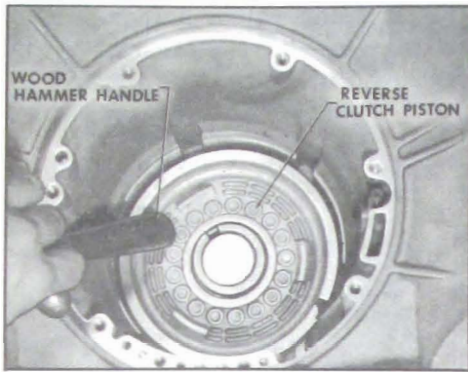

Figure 5-287
3. With transmission in vertical position install the reverse clutch piston into case. Tap piston with hammer handle to make certain piston is seated in case. See Figure 5-287.